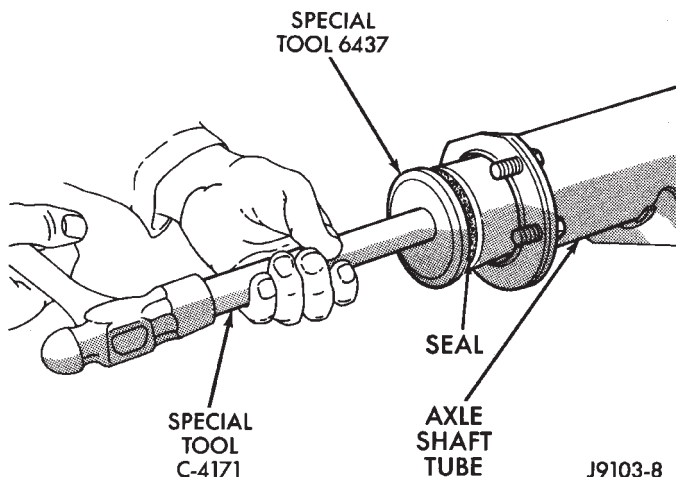

Fig. 22 Axle Shaft Seal Installation
(1) Wipe the axle shaft tube bore clean.
(2) Install axle shaft bearing with Installer 6436 and Handle C-4171. Ensure that the part number on the bearing is against the installer.
(3) Install the new axle shaft seal with Installer 6437 and Handle C-4171 (Fig. 22).
(4) Install the axle shaft.